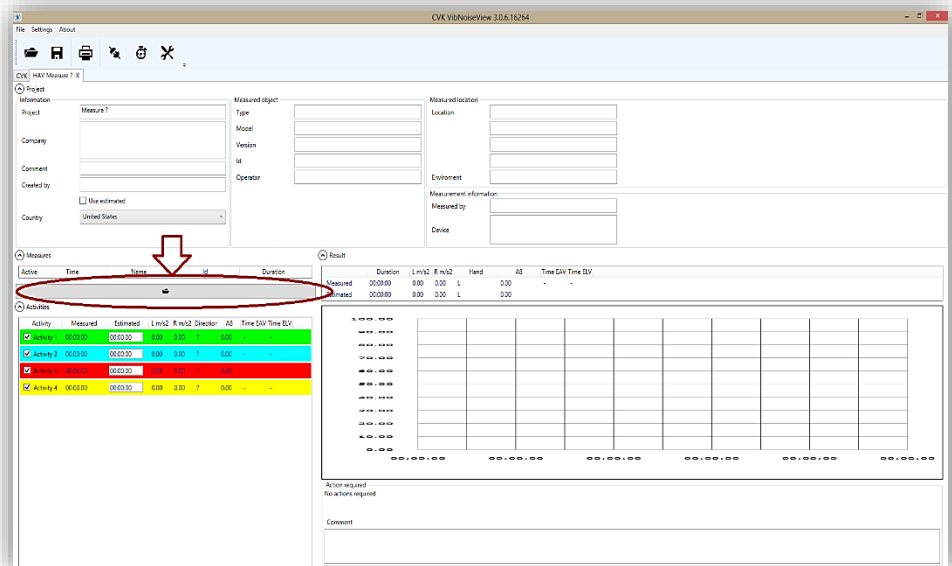

Figure 27: Open a saved measurement file
2. Click on 'Open button' in "Measures" section to open your saved measurement files. (see figure 27)